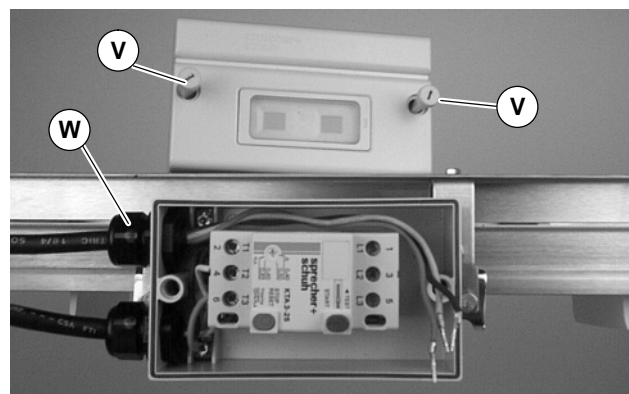

Figure 14
1. Loosen cover screws (V of Figure 14) and remove cover.
5. Replace starter cover and tighten screws (V of Figure 14).